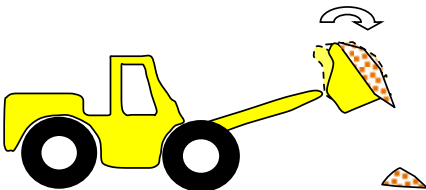

Figure 10
8. Operator stops loader and **slowly** tilts bucket until material begins to fall. (See Fig. 10)
Cutting the pile too low causes the representative material that was built up over time to be moved away and exposes the non-representative material which was dumped in the first few moments. (see step 8, Fig. 10)